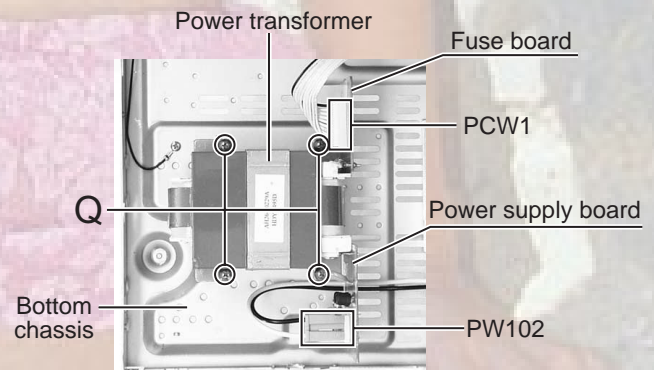

Fig.17
**Removing the power transformer (See Fig .17)**